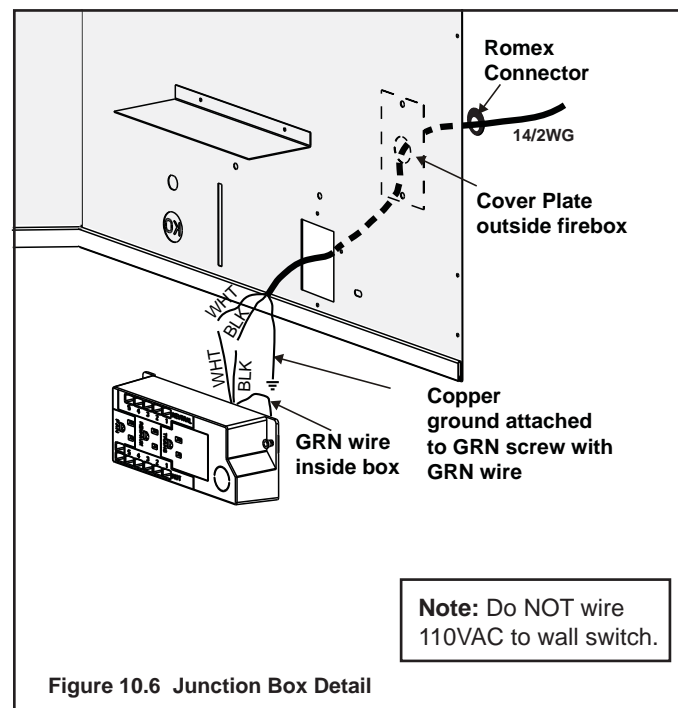

Figure 10.6 Junction Box Detail
A switch on the control box allows for battery power under no-power conditions. See Figure 10.6. By controlling the power supply with this switch, the batteries are supplying power only when needed, thus extending battery life. The switch also provides a convenient means for switching to battery power should there be a loss of 110 VAC power to the control box.
- Remove the cover plate located on the outer shell - right side. See Figure 10.6.
- Remove the screw attaching the junction box/receptacle to the outer shell, rotate the junction box inward to disengage it from the outer shell. See Figure 10.6.